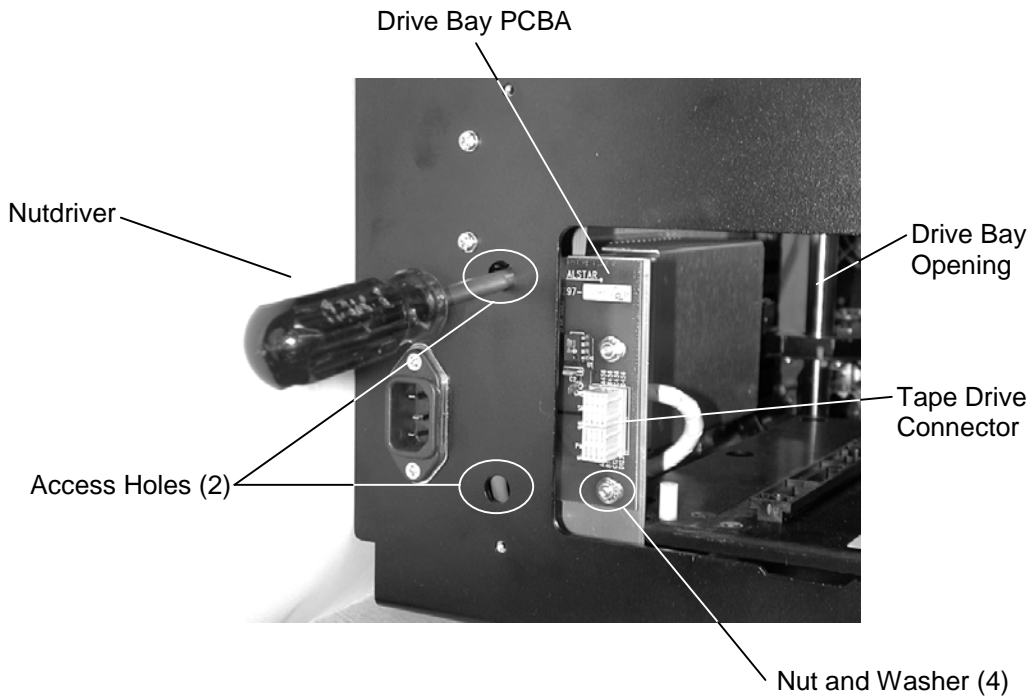

Figure 7-48 81xx Series The Drive Bay PCBA
6. Disconnect all the cables from the Drive Bay PCBA (Figure 7-48).
7. Reach through the two access holes in the rear of the TLS with a 1/4-inch nutdriver (a magnetic nutdriver works best) to remove the PCBA mounting nuts (Figure 7-48). Access the remaining two PCBA mounting nuts from the drive bay opening and remove them.
1. Insert the Drive Bay PCBA into the TLS and align its mounting screw holes with the PCBA Mounting Studs (Figure 7-48).
2. Install a washer by hand or with long nose pliers onto a PCBA Mounting Stud, then with a 1/4-inch nutdriver (a magnetic nutdriver works best) thread PCBA Mounting Nuts onto the PCBA Mounting Studs. Install the remaining PCBA Mounting screws the same way (Figure 7-48).
8. Reconnect all the cables to the Drive Bay PCBA (Figure 7-48).